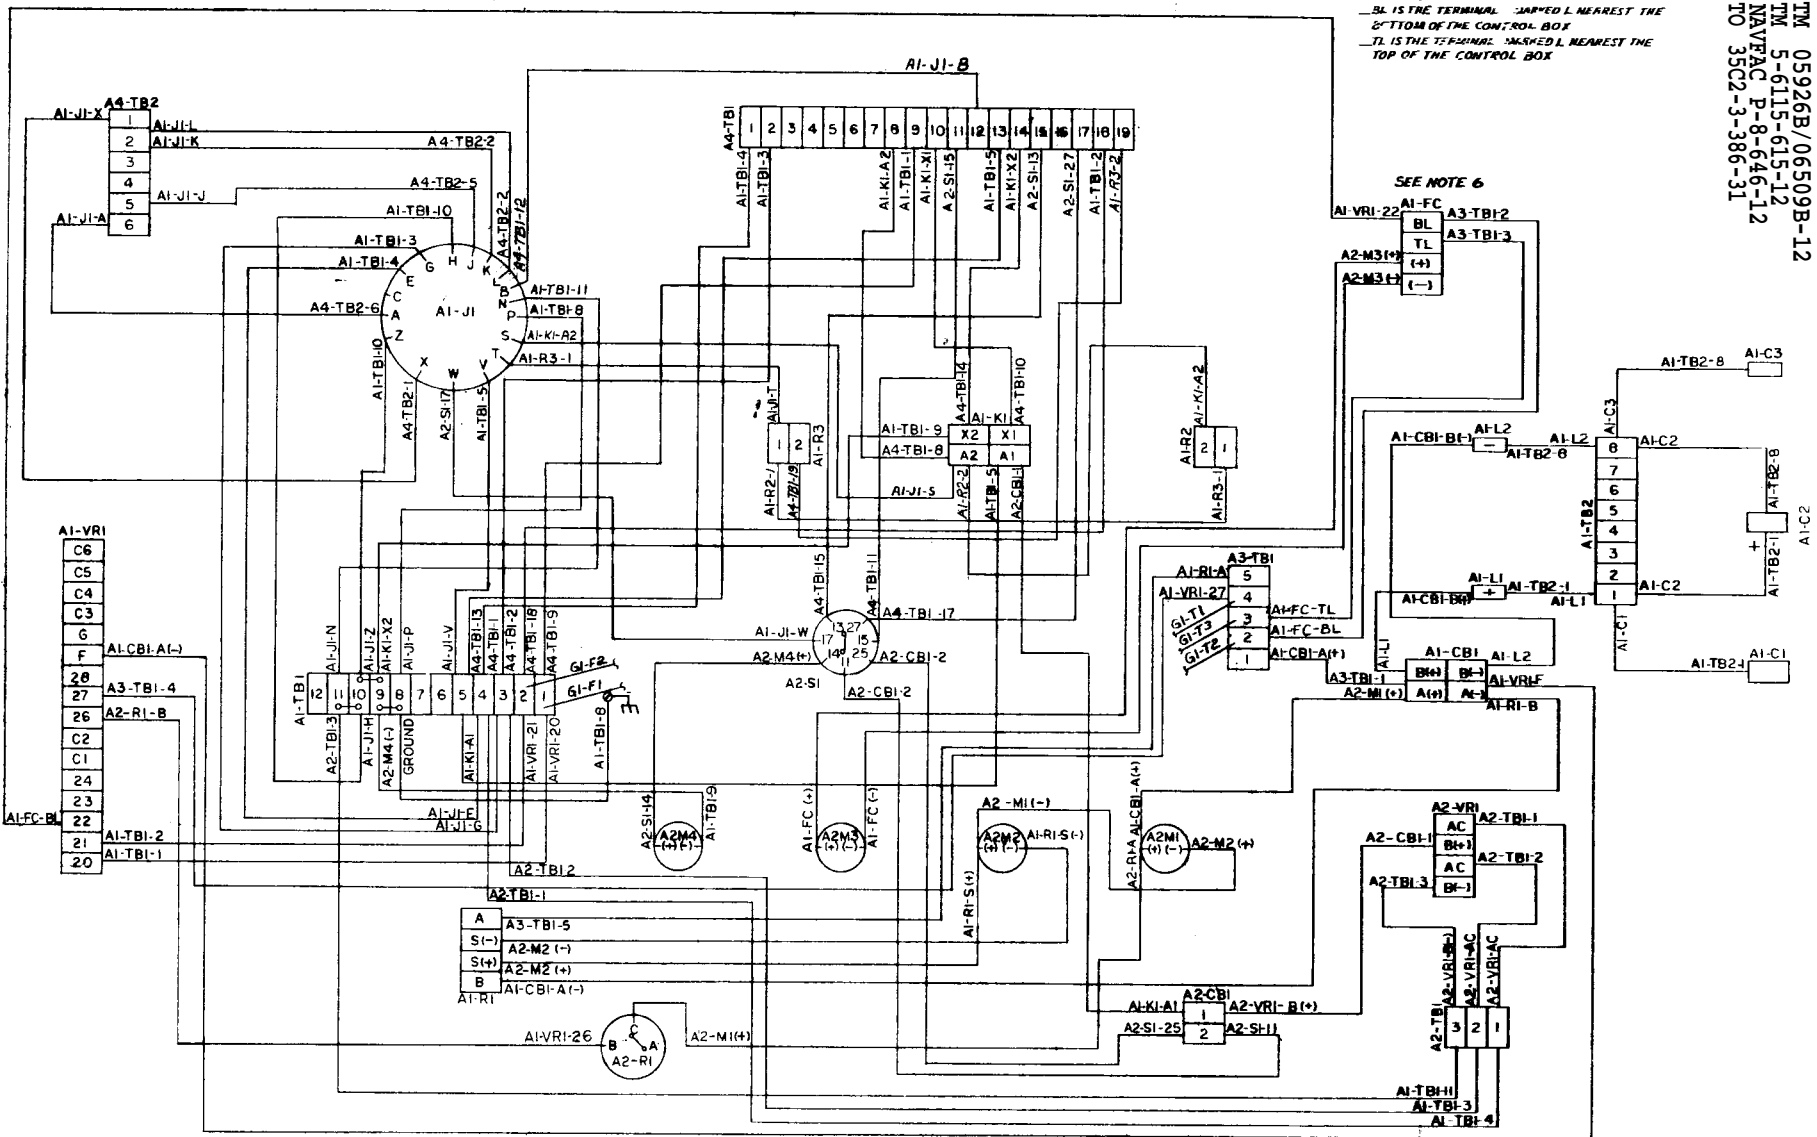

Figure 4-66. Wiring Diagram (Model MEP-026B).
3. For electrical schematic (Model MEP-026B) see Figure 4-66.